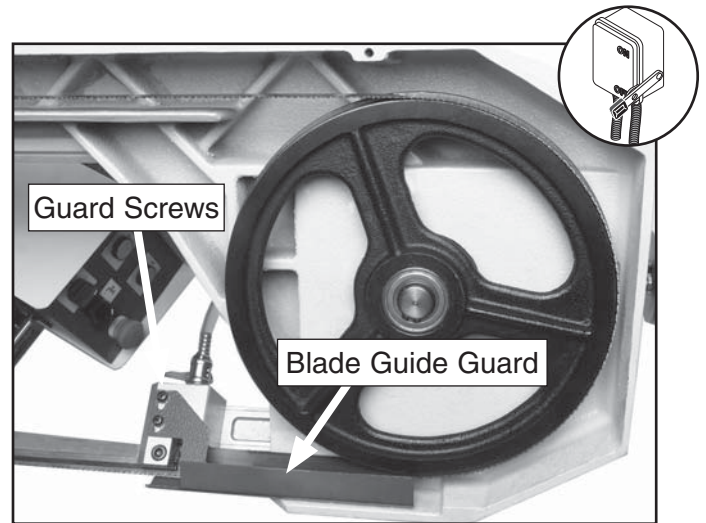

Figure 34. Installed blade and guide guard.
4. Remove both of the blade guide guards (**Figures 34 and 35**) from the bandsaw.